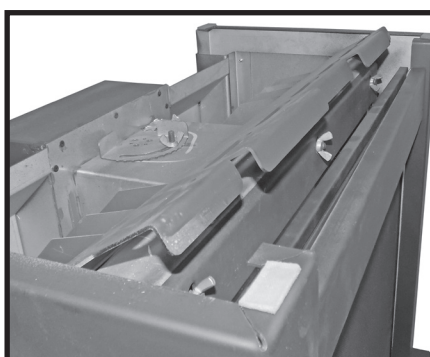
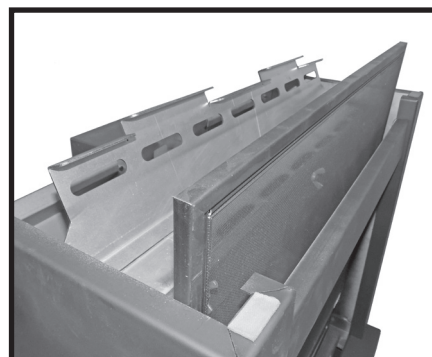

Figure 35: TN24 mesh cover plate.
Figure 36: TN24 mesh removal.
2. Raise the screen mesh cover as shown in (Figure 35). and lift the screen mesh out (Figure 36).